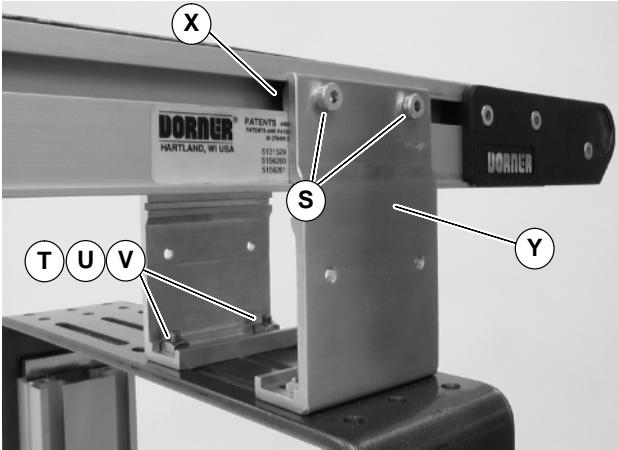

Figure 10
3. Insert T-bars (W of Figures 8 & 9) into conveyor side slots (X of Figure 10). Fasten brackets (Y of Figure 10) to conveyor with mounting screws (S).
4. Fasten brackets to support stand with mounting screws (T of Figure 10), washers (U) and nuts (V).
5. Tighten screws (S & T of Figure 10) to 60 in-lb (7 N-m).